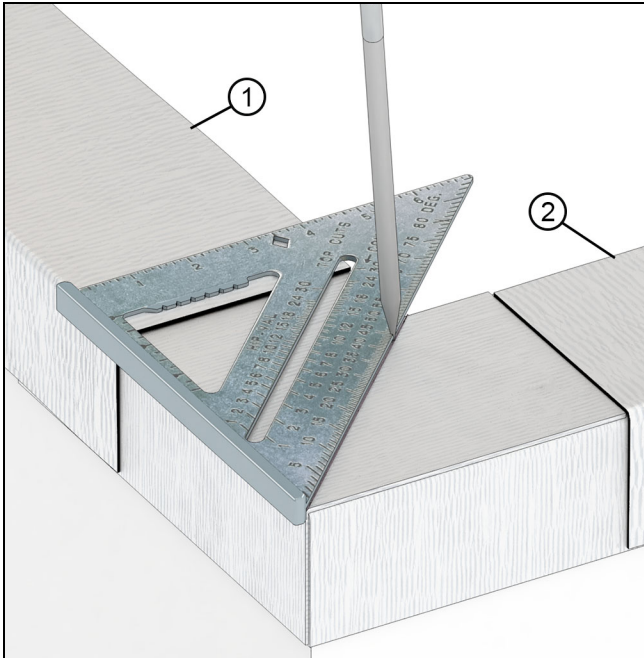

Figure 29
12. Draw a 45 degree angle onto the sill of the rough opening to reference the meeting line for Leg Assembly 1 and Leg Assembly 2. See Figure 29.